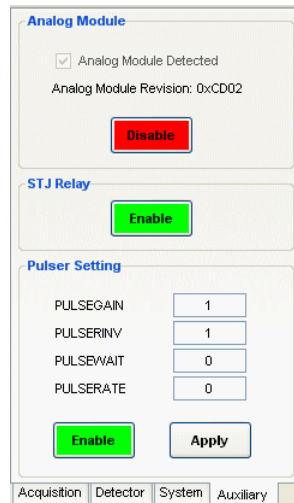

Fig 7: The Auxiliary tab with an STJ Analog auxiliary module connected to the currently selected MPX-32D module.
- **Note that with these settings, the built-in pulser (with default settings as shown in Figure 7) should generate events with energy roughly equal to 1 keV and a count rate of 1 kcps.**